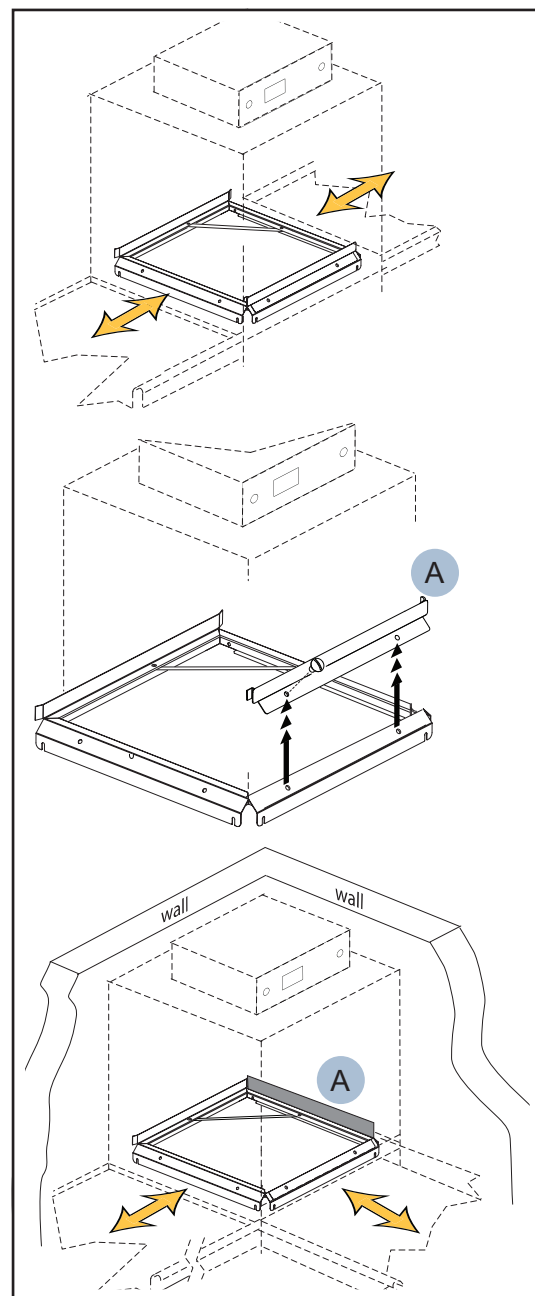

Fig. 7 - Rack Guide (A) Relocation
1. Remove the rack guide (A); save the fasteners. Move (A) and re-attach as shown (see Fig. 7).